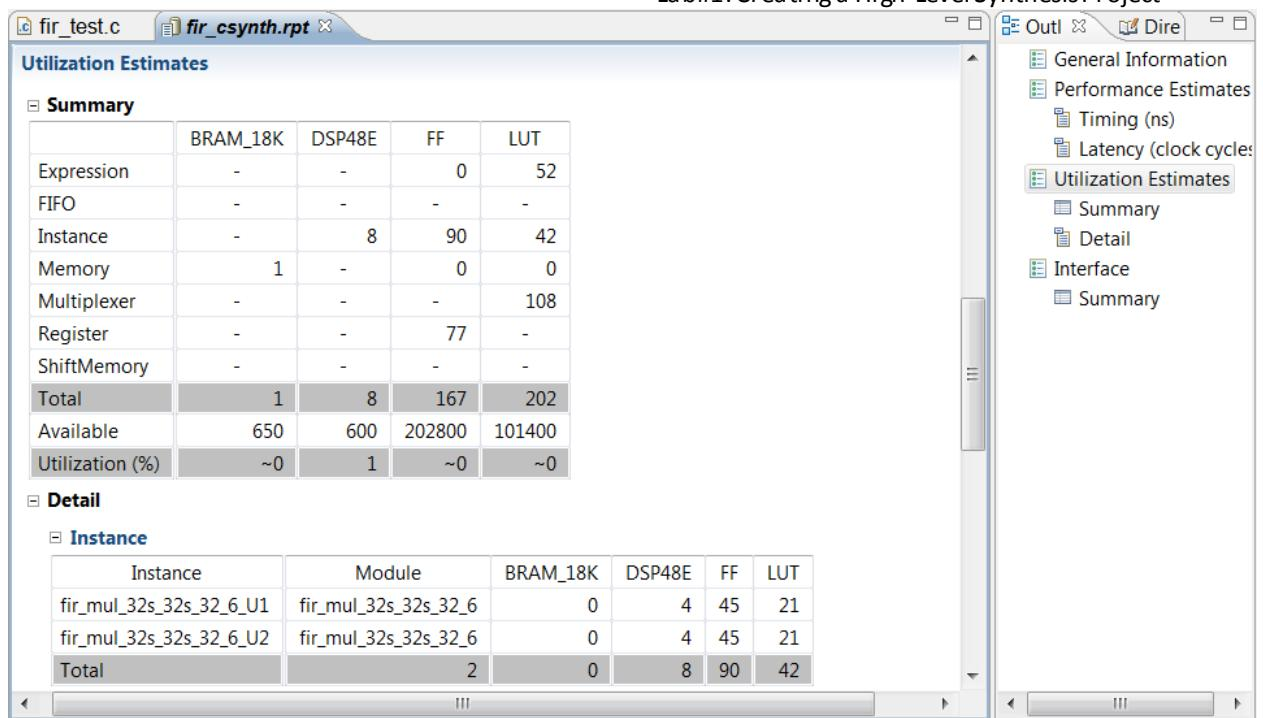

Figure 13: Utilization Estimates
4. Click on Utilization Estimate in the Outline tab (Figure 13).